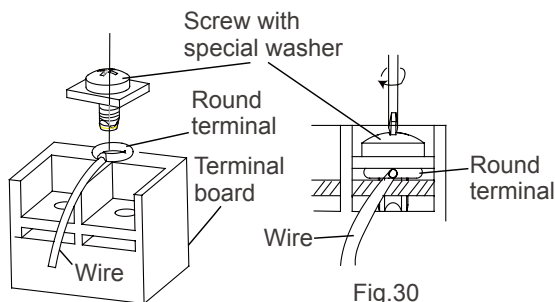

Fig.30
- (1). Cut the wire end with a wire cutter or wire-cutting pliers, then strip the insulation about 10mm (3/8") .
- (2). Using a screwdriver, remove the terminal screw (s) on the terminal board.
- (3). Using a round terminal fastener or pliers, securely clamp a round terminal to each stripped wire end.
- (4). Position the round terminal wire, and replace and tighten the terminal screw with a screwdriver.(Fig.30)